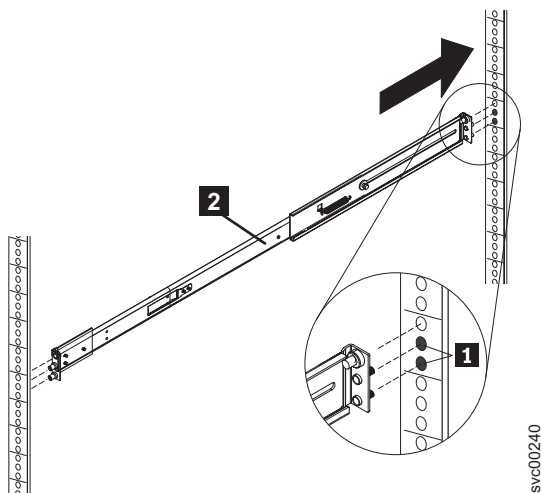

Figure 56. Inserting the right slide rail into the rear rack mounting flange
3. Insert the right slide rail **2** into the rear rack mounting flange, as shown in Figure 56, with the rail pins **1** protruding through the flange.